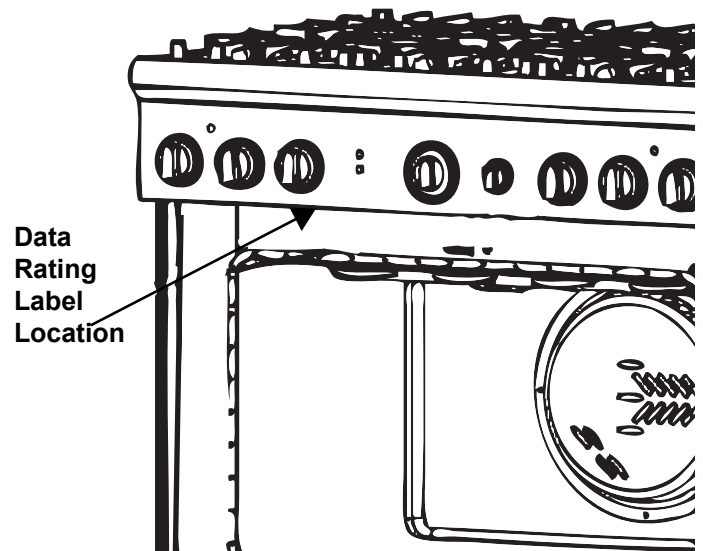

**Figure 24: Hinge Receiver Adjustment Screw**
3. For 48" models with large and small ovens, if door or handle appears slightly tilted, you may adjust the hinge receiver by rotating the large Torx-head screw located directly above the hinge receiver with a T-20 Torx driver. Rotate each screw respective to its side and direction the door needs to be adjusted (*Figure 24*).